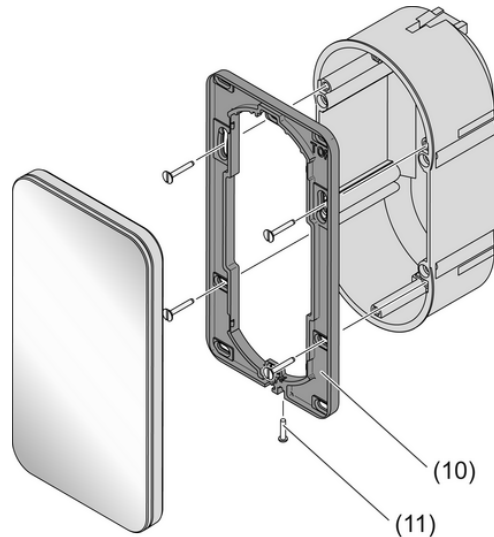

Figure 11
- Align the mounting frame (10) and screw it to the appliance box or the wall (Figure 11). Observe marking **TOP** = TOP. Use the enclosed set of screws.
- Connect power supply to the terminal (5).
- Connect the KNX bus voltage to the terminal (7).
- Optional: Connect the external temperature sensor to the terminal (6).
- Tighten the retaining screw (11) on the bottom of the mounting frame. Use a Pozi-Drive screwdriver, size 0.